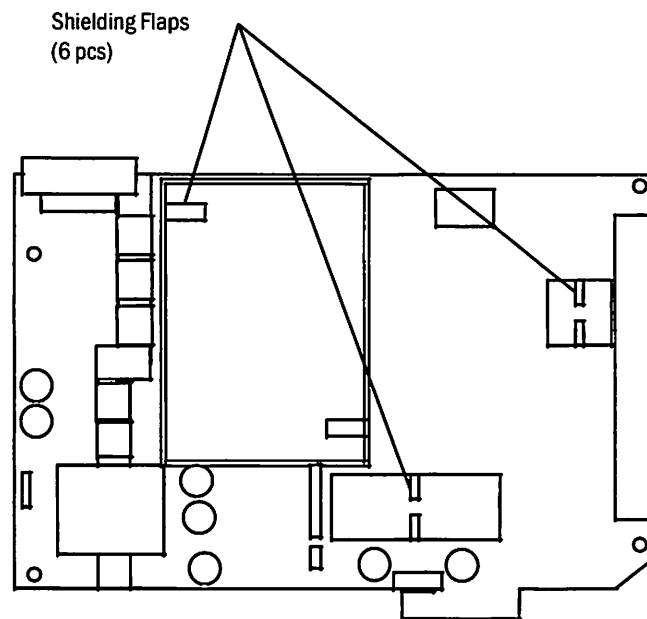

Figure 3 LM1-STP board EMC covers
5. Check that all shielding flaps (6 pcs) are properly closed. (Figure 3)